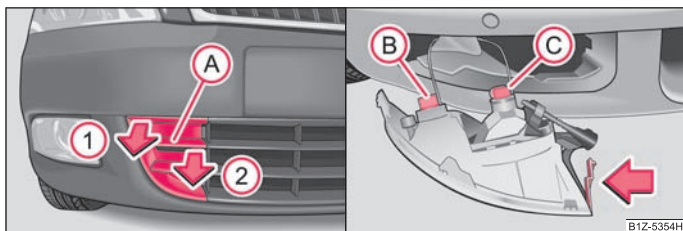

Fig. 197 Front bumper: Protective grille/removing the fog light
Plug **B** - Bulb for daylight driving light ⇒ fig. 197. Plug **C** - Bulb for fog lights.
- Guide the fingers into the opening **A** ⇒ fig. 197.
- Guide your hand into the opening, in which the cover was located, and press the spring bolt ⇒ fig. 197 - right.